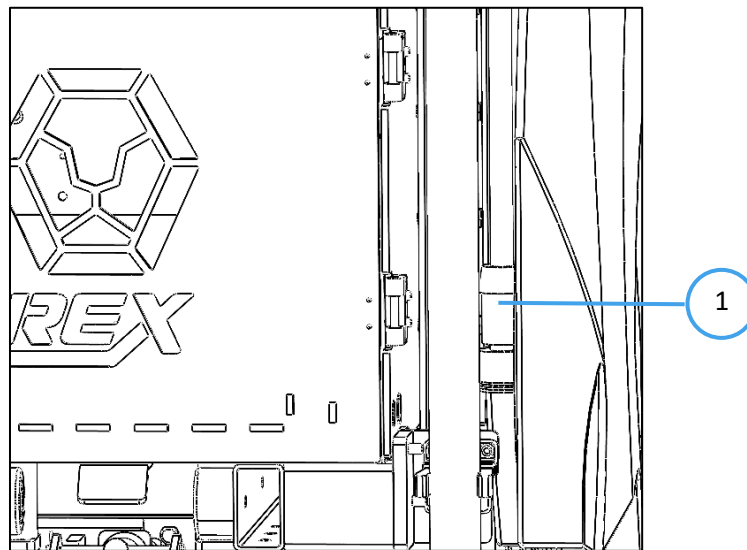

Fig. 3
7. **Verify fresh water hose is free of water.** (Fig. 3 – 1).